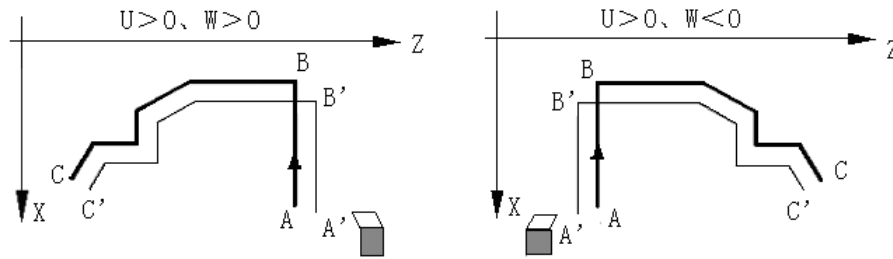

Fig. 4-40
- 1) In the command ①, the coordinate has no the actual motion, the system automatically memorizes the offset value to the internal and is always valid; it is defaulted to 0 when it is not specified.
- 2) The offset value in G71 ① only effects on G71 ②.
- 3) U, W in G71 ① must be specified simultaneously.
- 4) X(U), P, Q in G71 ③ should be the same those of G71 ②; when they are input, they must be the whole. And the field range must the same that②.
- 5) In G71 ③, the command program rules in P~Q are the same those of G71 ②.
- 6) When the system executes the roughing G71 ②, it automatically memorizes X(U),P,Q data of last G71 and directly refers the data of the internal memory. So, the field following G710 can be omitted when the system executes the finishing to the last roughing G71 path.
- 9) G710 is the same with G71 ②, and their internal can execute the tool nose radius compensation, and its programming rules and format are same those of G71 ②.
- 10) Coordinate offset direction in left roughing allowance: U,W in ① expresses the coordinate offset and cut-in direction in finishing, U, W sign compound is as Fig. 4-40: B→C is finishing path, B'→C' is roughing contour, A is the start-up point.
G72 cycle execution process as Fig. 4-40: